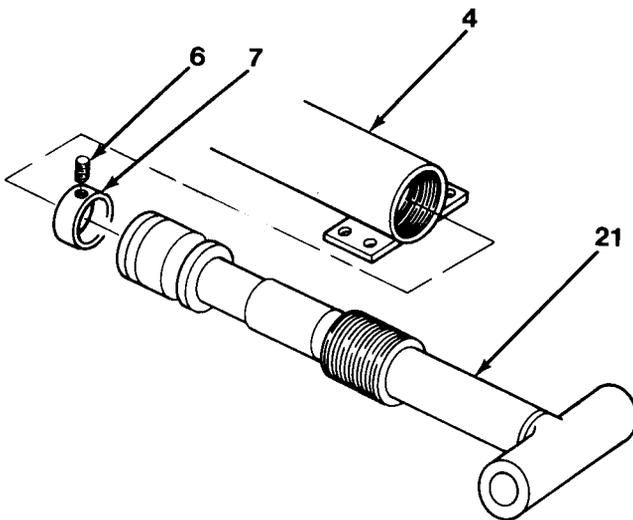

Figure 13-3
9. Install and tighten buttress ring nut (7) on rod assembly (21, Figure 13-3).
10. Install two Nylok setscrews (6).